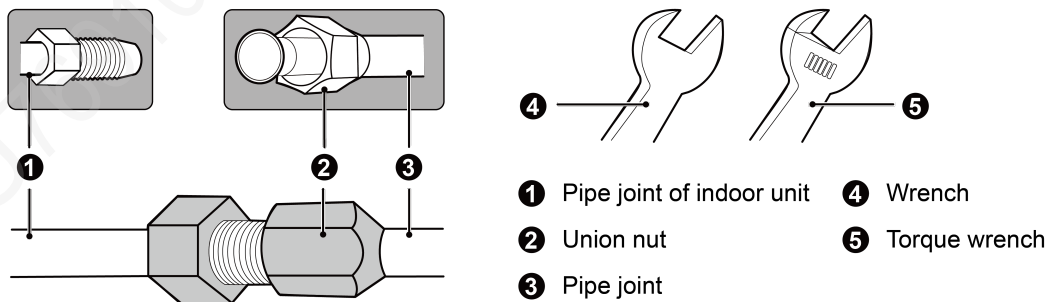

Fig.4.2
- (1) Aim the flaring port of copper pipe at the center of screwed joint and then tighten the flaring nut with hand as shown in Fig.4.2.